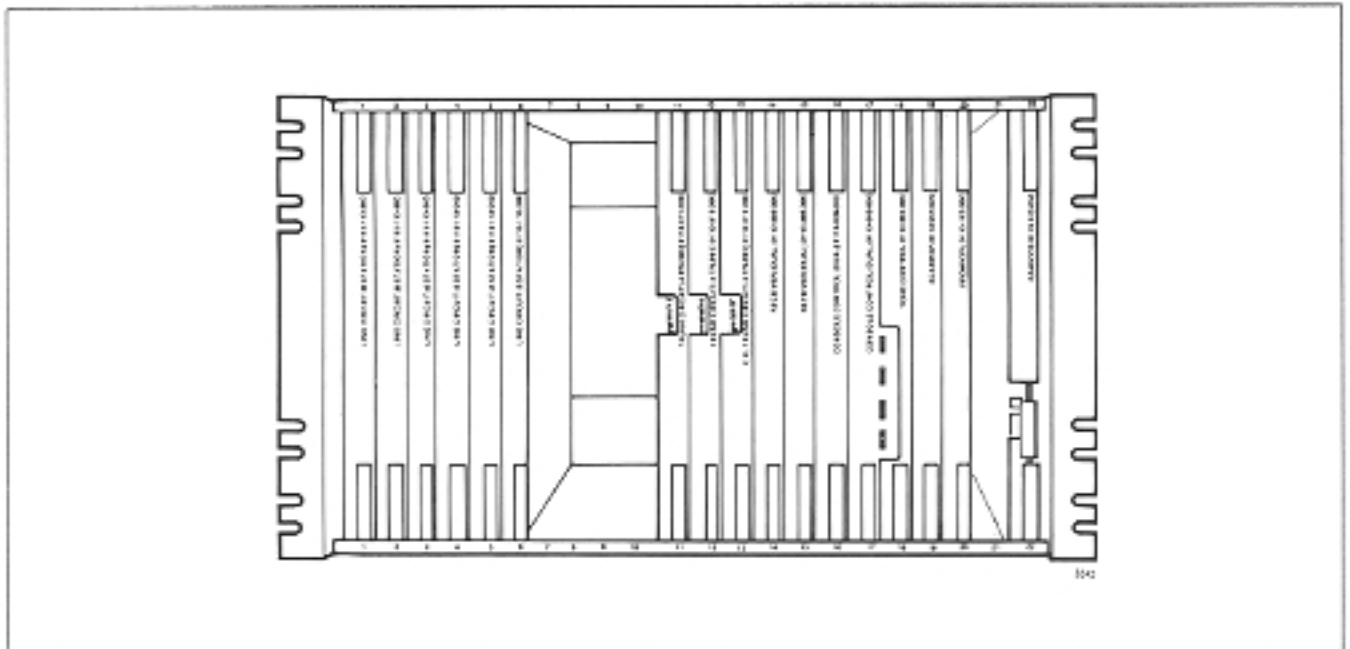

Fig. 2-3 Equipment Shelf
2.12 Each equipment shelf holds up to 21 printed circuit cards which plug into the shelf back plane. On the rear of the back plane are a number of Amphenol plugs providing interconnections between the shelves and external equipment. In addition to the plugs are a number of screw down terminals allowing shelf connection to the primary power supply unit. The equipment shelves (Fig. 2-3) measure 10.75 in.